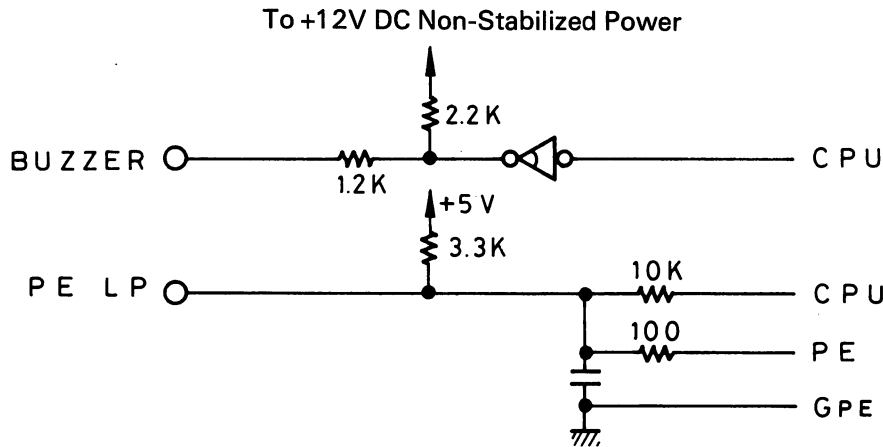

Fig. 2-26. Buzzer and PE Circuit
2.3.6 Buzzer and PE Lamp Circuit (Fig. 2-26)